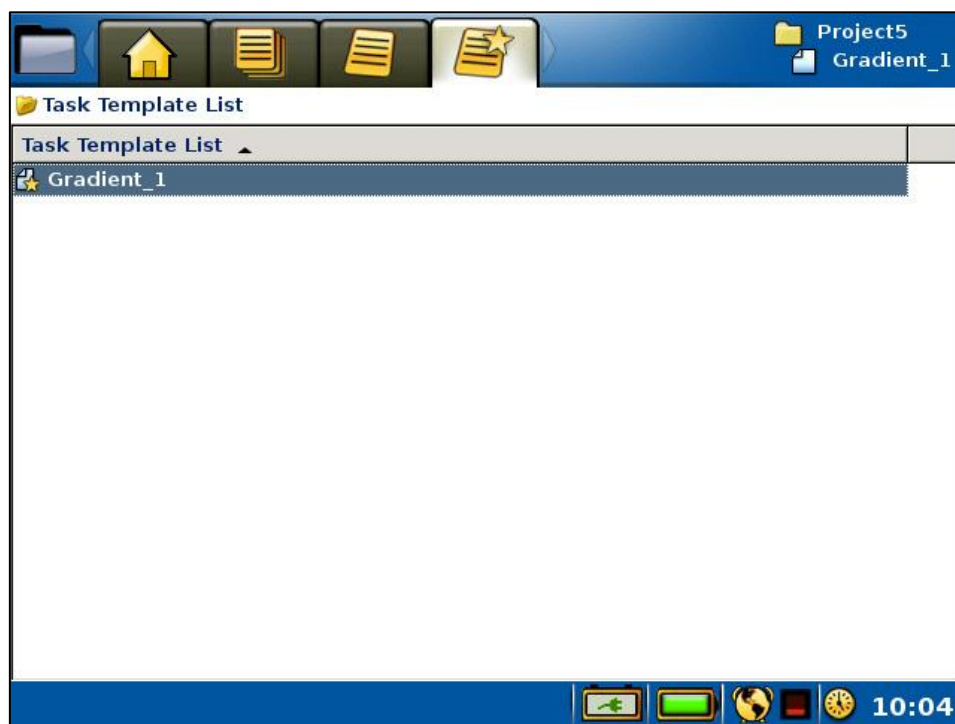
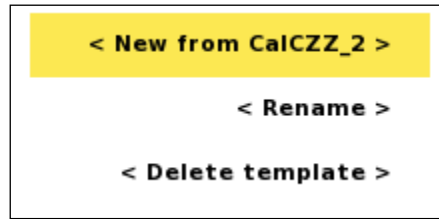

Figure 26 Task Templates Page
Figure 27 *Template Option menu with the "New from" item highlighted*
Templates are managed in the “Projects/Task Templates” Page (Figure 26), and have an option menu associated with them for administration (Figure 27).
- Press <Options> and the option menu of Figure 27 will be shown